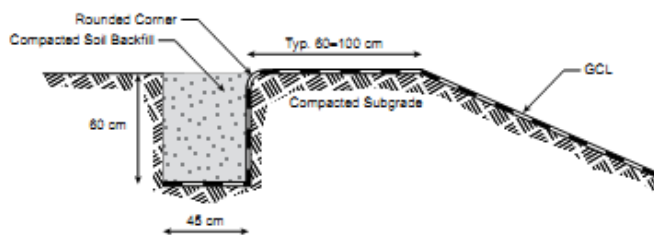

Fig. 8: Typical anchor trench design
2. If a trench is used for anchoring the end of the **Claymat GCL**, soil backfill should be placed in the trench to provide resistance against pull-out. The size and shape of the trench, as well as the appropriate backfill procedures should be in accordance with the project drawings and specifications. Typical dimensions are shown in Figure 8.